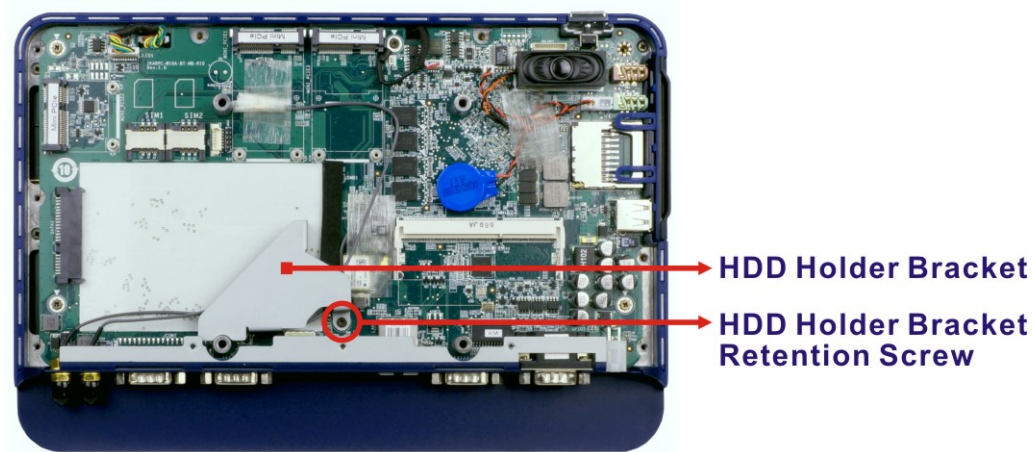

Figure 3-6: HDD Holder Bracket Retention Screw
Step 3: Remove the HDD holder bracket by removing the retention screw shown in **Figure 3-6**.